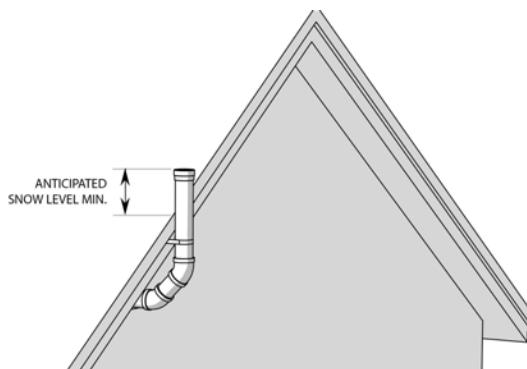

Figure 23 Sidewall vent termination transition to vertical to clear soffit
- » Where an exhaust passes through a sidewall too close to a soffit, the venting must extend past the soffit by transitioning to vertical as shown in Figure 23.